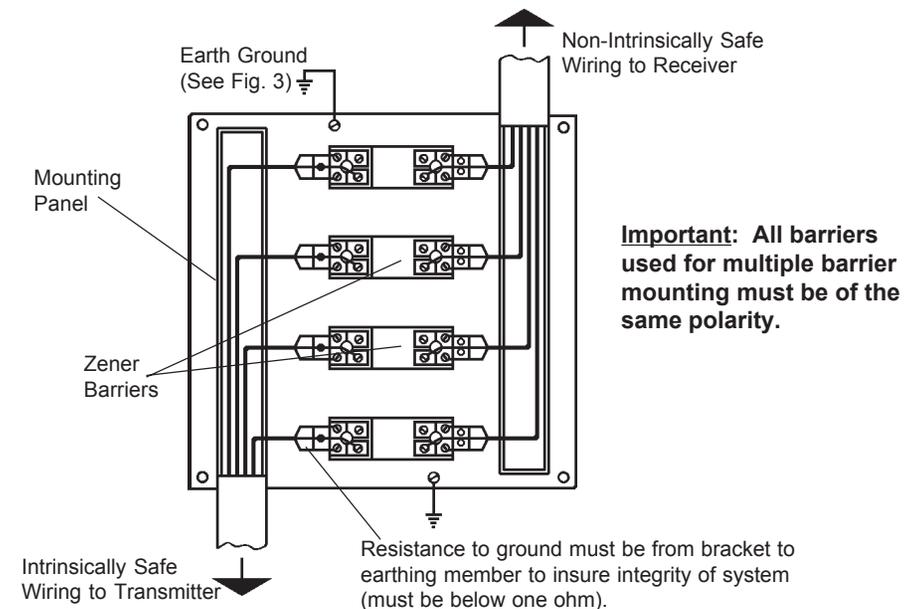

FIG. 2 Multiple Barrier Mounting
4. To serve multiple tank installations, additional barriers may be placed in an enclosure using a common earthing ground. **(See Figure 2)** In this enclosure, the intrinsically safe wiring should be segregated from non-intrinsically safe wiring by independent raceways, wiring trays or other adequate means to insure the integrity of the installation. Minimum field wiring insulation thickness to be not less than .010".